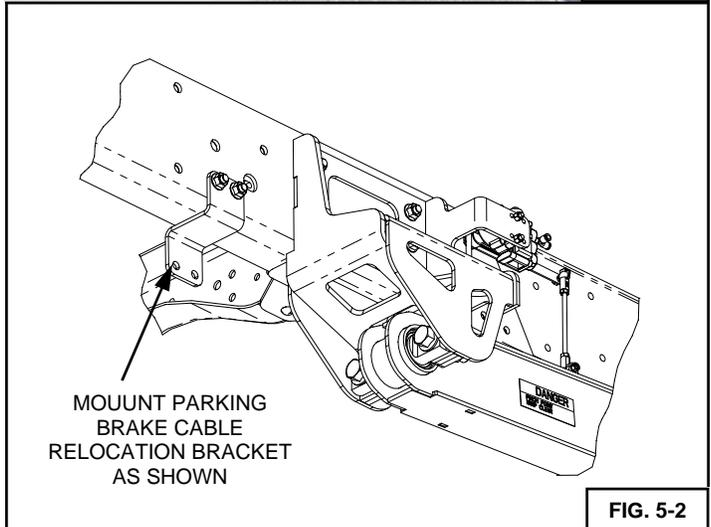

FIG. 5-2
4. Secure The TRAILING ARM loosely to the FRONT HANGER with (2) 3/4 X 3 UNC FLANGE BOLTS AND (2) 3/4 UNC FLANGE NUTS. See Fig. 5-2, 5-4 for bolt orientation.
5. Secure the TRAILING ARM to the LOWER LATERAL CONTROL BRACKET, using (2) 3/4 X 7 UNF BOLTS, AND (2) 3/4 UNF TOP LOCK NUTS. Tighten these 3/4 UNF fasteners at this time. (See Table 10-1 for appropriate Torque).